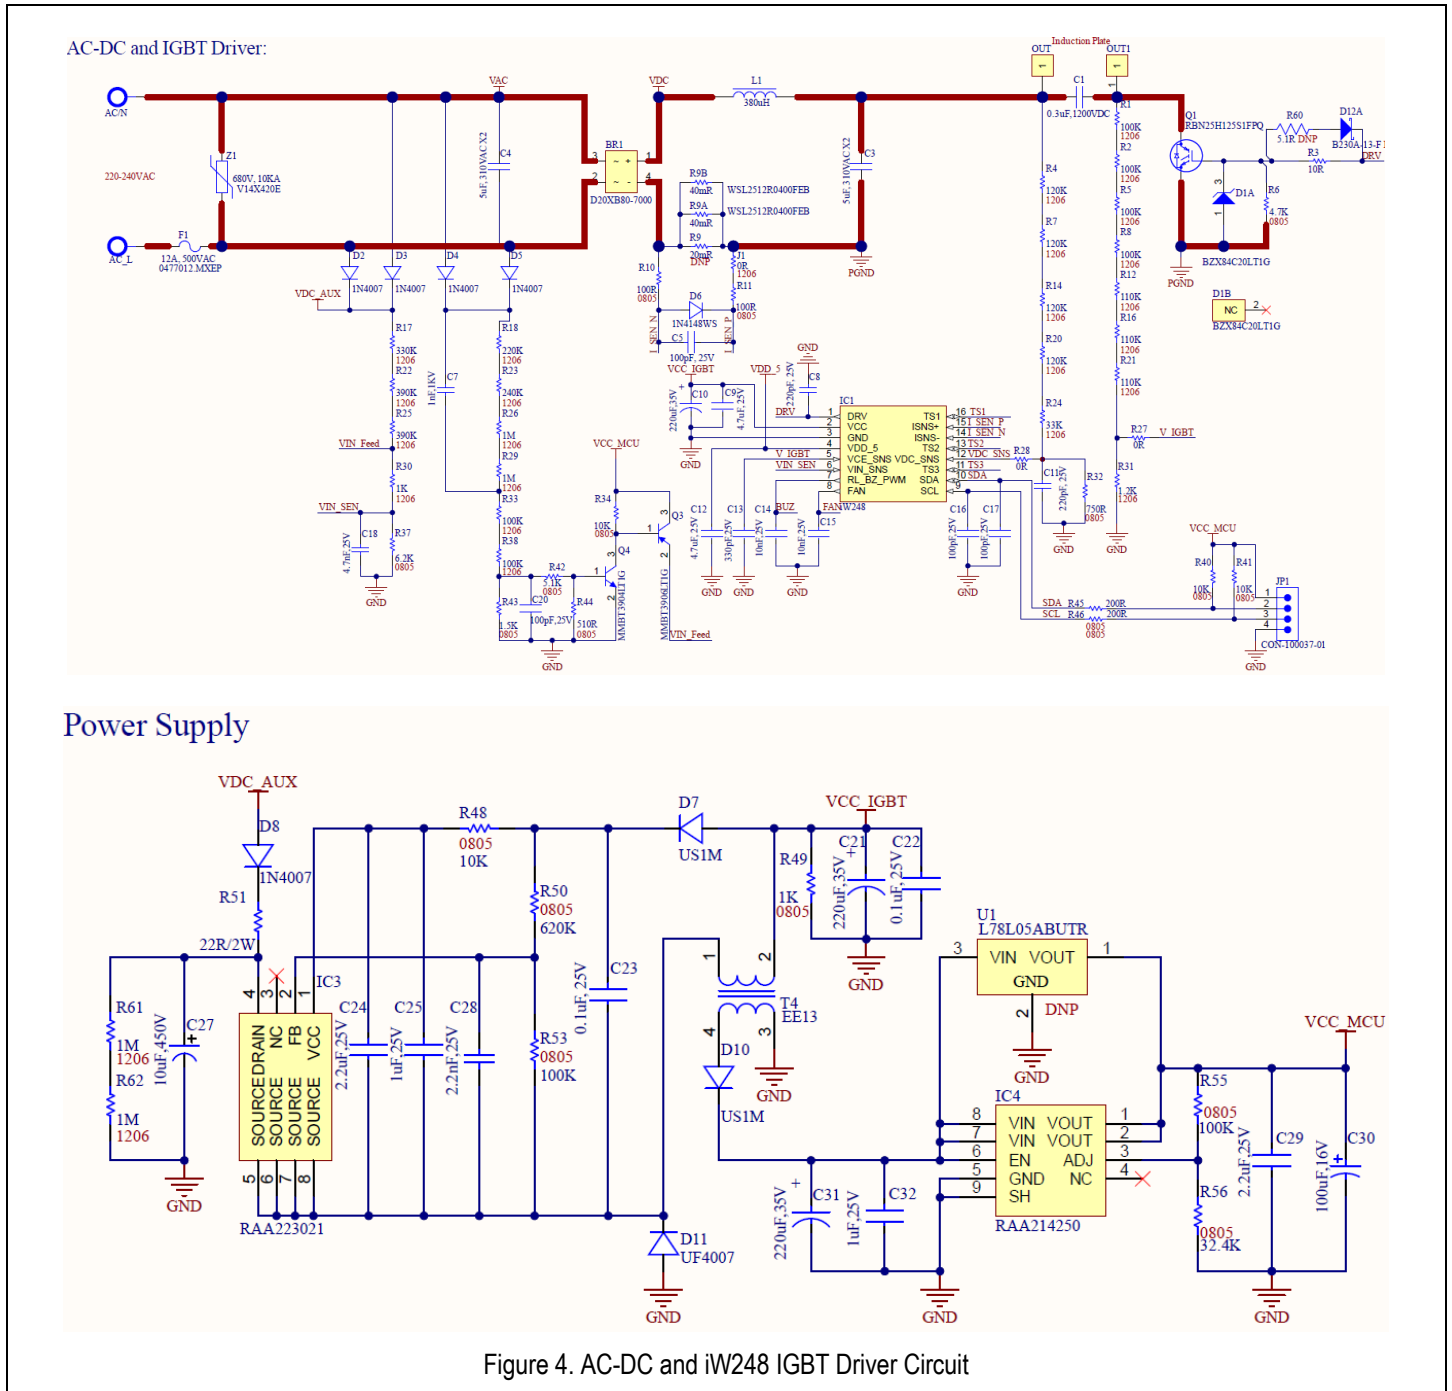

Figure 4. AC-DC and iW248 IGBT Driver Circuit
The iW248 is a digital controller with an integrated IGBT driver for inductive (IH) cooking applications. Once  $V_{CC}$  reaches the start-up threshold level, the controller operates in idle mode and is ready to receive instructions from the user interface MCU. Soon after the iW248 receives instructions, it starts to detect and determine the input line voltage. If the input line voltage is within the operating range, the controller enters pot detection mode. The iW248 features an innovative pot detection method by detecting the number of rings on  $V_{CE}$  of the IGBT. A pulse is sent out at DRV pin every second by default, a pot is detected if the number of rings on  $V_{CE}$  is less than nine. When a pot is detected, the iW248 goes to constant power mode operation or constant current mode according to the input line voltage. Figure 4 outlines the state machine diagram of iW248.